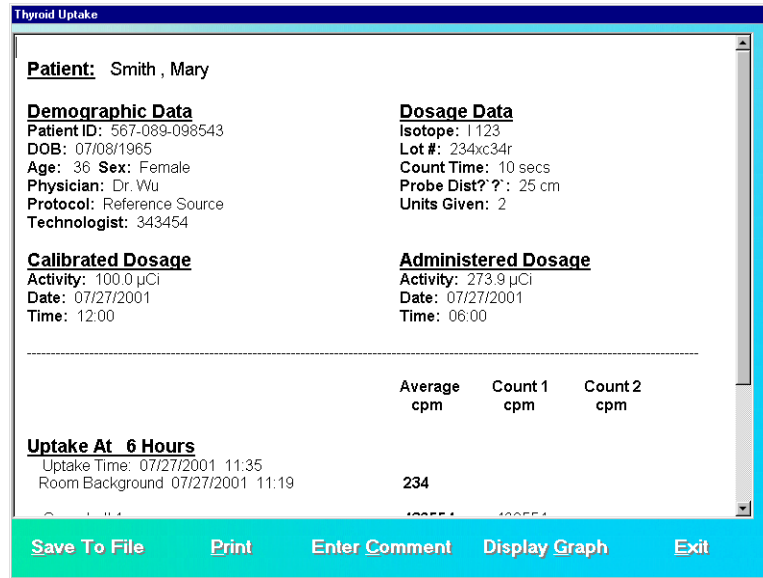

Figure 7-26
3. Click the  icon. A typical patient report screen appears as shown in Figure 7-26. It contains the patient's demographic data, measurement protocol, dosage information, count data and calculated results. If Normal Range values have been entered in the setup, normal ranges will also be printed. Any results outside of these limits, provided that the thyroid uptake was performed within 1 hour of the stated time in Normal Range setup, will be flagged as out of range.